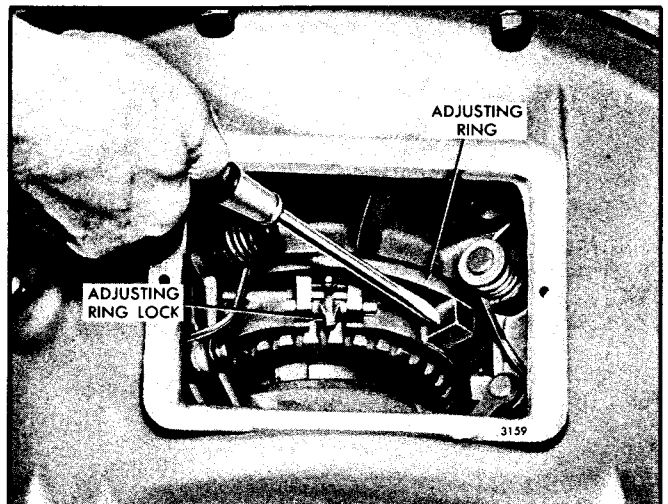

Fig. 14 - Power Take-Off Assembly Showing 14 Inch Diameter Clutch Adjustment Ring
5. On the 14" diameter single and double plate clutches, raise the end of the adjusting ring lock up out of the splined groove in the hub of the outer clutch pressure plate. Then, while holding the clutch drive shaft to prevent the clutch from turning, turn the clutch adjusting ring clockwise as shown in Fig. 14